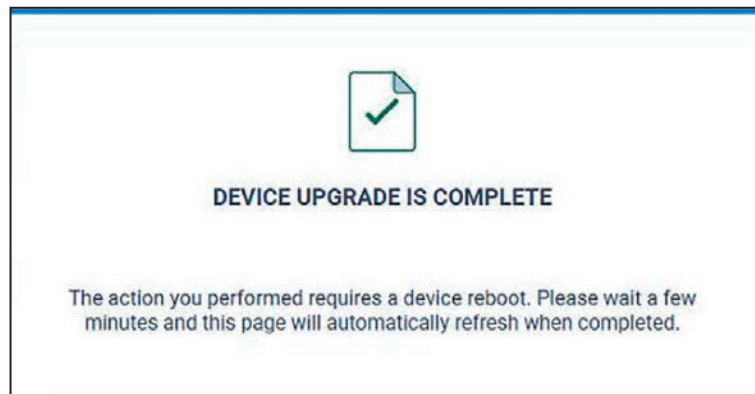

Figure 17. Device upgrade complete, reboot in progress.
STEP 7. When the upgrade process completes, a notification appears indicating the R3 Communication Module will be unavailable while it reboots. The reboot will take several minutes to complete. See Figure 17.